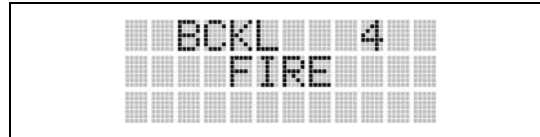

Figure 11-10: Backlight Menu Display
3. Press . The backlight menu item is activated. Line one shows the active menu item and its current parameter setting. Line two shows the currently selected system or group name (see Figure 11-10).